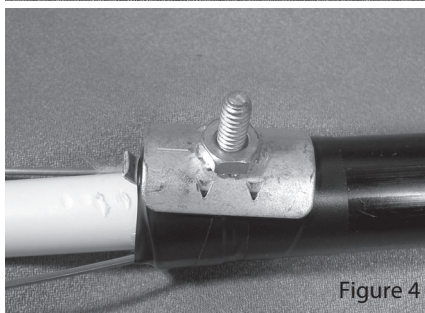

Figure 4
4. Attach the bond plate over the stud, install the nut, and tighten it to 40 inch-pounds. (Figure 4)